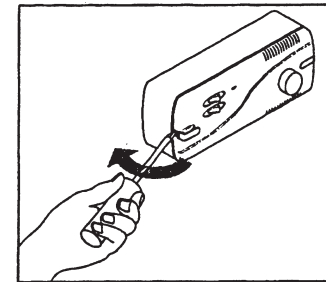

Fig. 2a: Removing screw covers
- 1 Detach the Fascia and Mounting Frame by removing the screw covers and two screws (Refer to Fig. 2a&b).